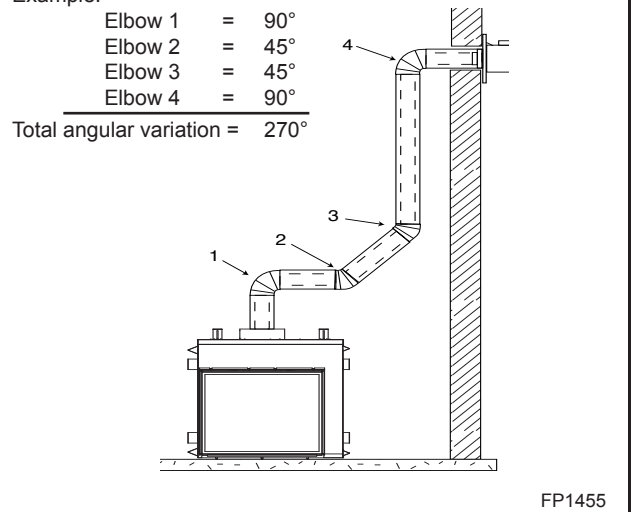

Fig. 18 Maximum number of elbow degrees.
- The maximum number of elbow degrees in a system is 270°. (Fig. 18)